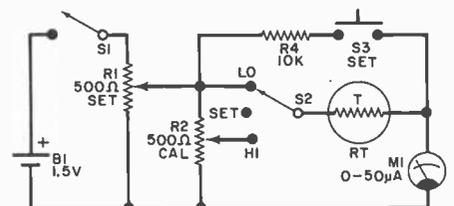

Fig. 1. Probe RT senses temperature.
**About the Circuit.** The schematic diagram of the thermometer is shown in Fig. 1. It consists essentially of a resistor (thermistor) connected in series with a meter movement (M1) across battery B1. As the resistance of the thermistor, RT, varies with changes in temperature, the current through the meter varies in step with it, changing pointer deflection. With the thermistor specified, as temperature increases, RT's resistance decreases and more current goes